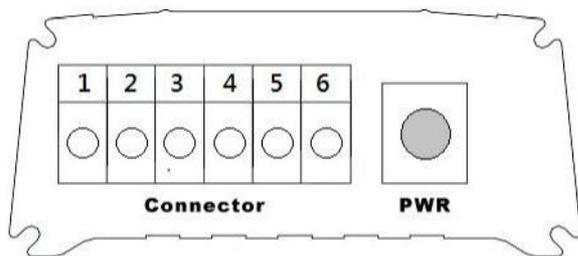
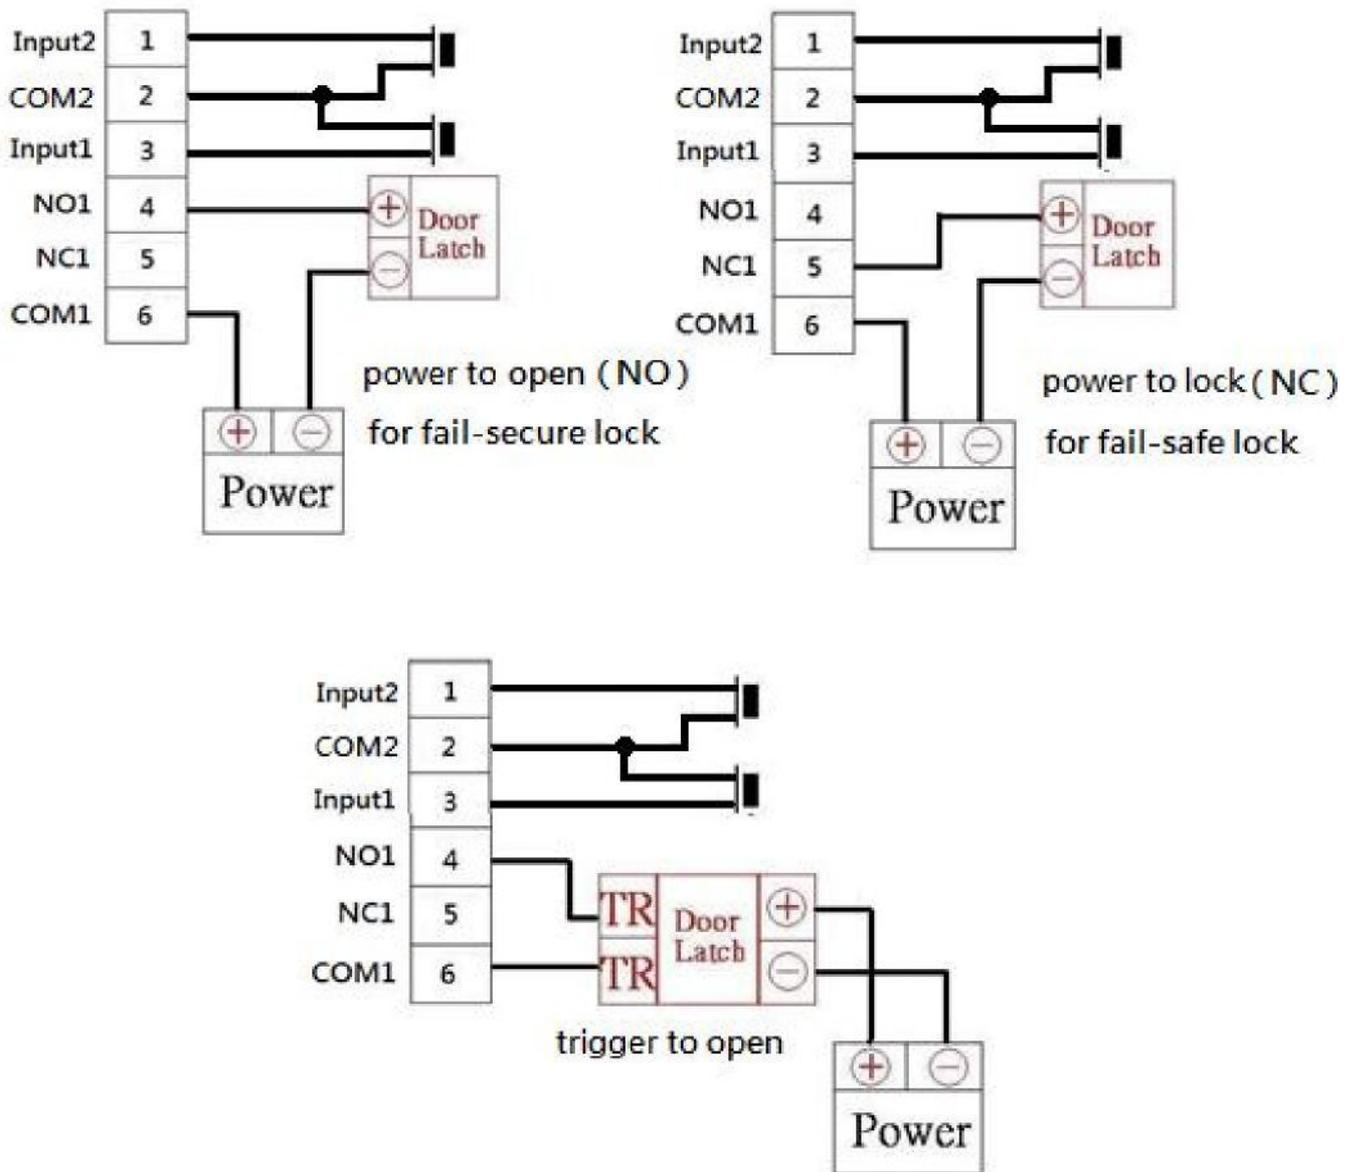

Fig 2
Fig3
5.3 WIRING DIGRAM (Fig2 & Fig3)